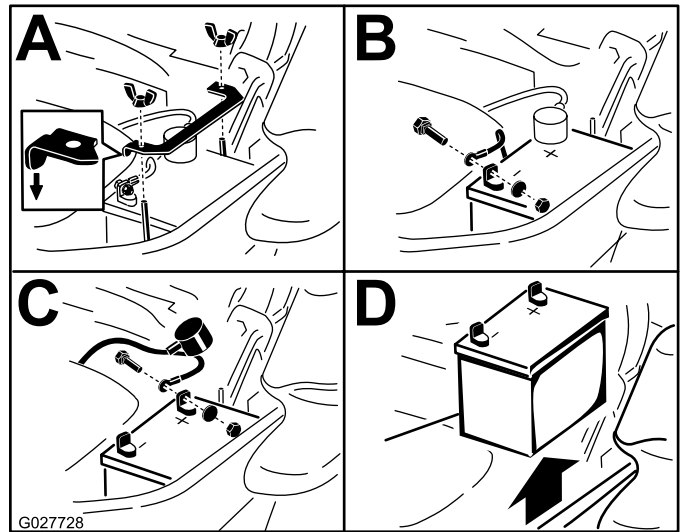

Figure 72
3. Remove the battery as shown in Figure 72.
Note: Position the battery in the tray with the terminal posts opposite from the hydraulic tank (Figure 72).